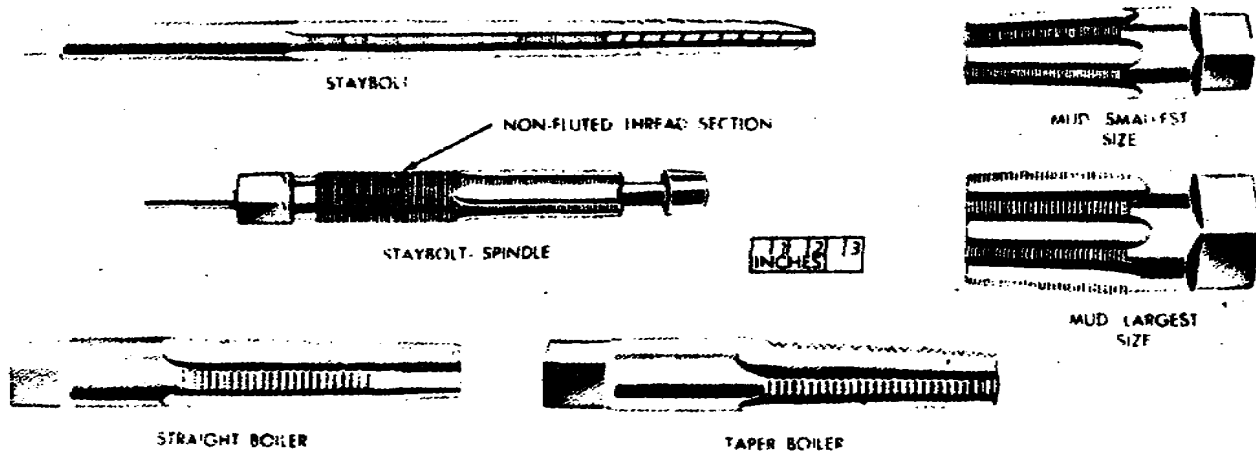
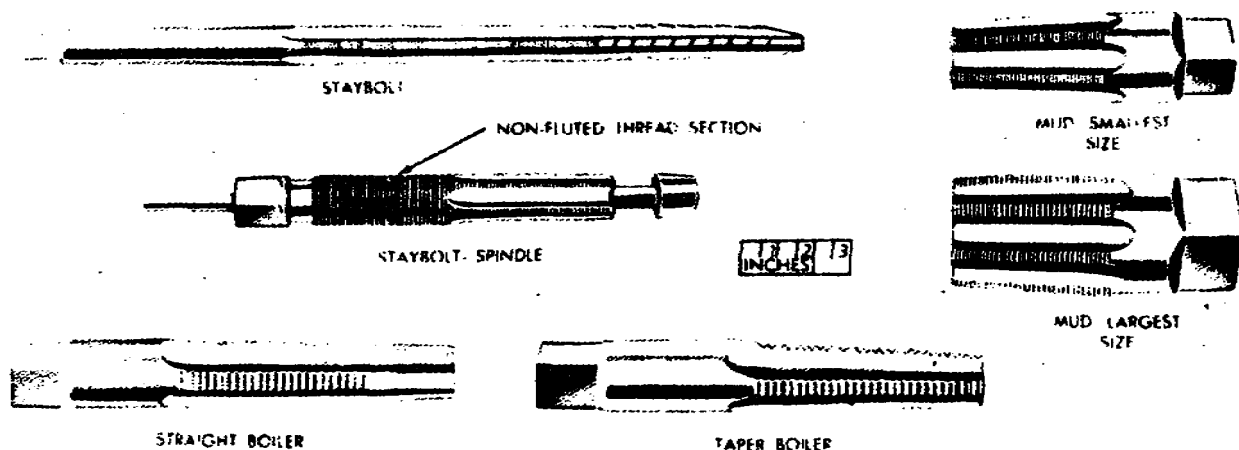

Figure 29. Types of common taps.
Figure 30. Special purpose taps.
b. Types of taps. There are several types of taps issued by the supply system. However, the most common are the taper, plug, bottoming, and pipe taps (fig 29). Special purpose taps (fig 30) such as mud or washout taps, boiler taps, and staybolt taps are also discussed in this paragraph.
(1) Taper hand tap. The taper or starting hand tap (fig 29) has a chamfer length of 8 to 10 threads. These taps are used when starting the tapping operation and tapping coarse threads in through holes especially in harder metals.
(2) Plug hand taps. Plug hand taps (fig 29) are designed for use after the taper tap and in through holes when tapping softer metals or fine-pitch threads. They have a chamfered length of 3 to 5 threads. These taps. are the most popular.
(3) Bottoming hand taps. Bottoming hand taps (fig 29) are used for threading the bottom of a blind hole. They have a very short chamfer length of only 1 to 1-1/2 threads for this purpose. This tap is always used after the plug tap has already been used and for hard materials. Both the taper hand and plug hand taps should precede the use of the bottoming hand tap.
(4) Pipe taps. A taper pipe tap (fig 29) is used for pipe fittings and on other places where extremely tight fits are necessary. The tap diameter, from end to end of threaded portion, increases at the rate of 3/4 inch per foot. All threads on this tap cut as compared to the straight taps where only the nonchamfered portion does the cutting.
(5) Boiler taps. Straight boiler taps (fig 30) range in diameter from 1/2 to 1-1/2 inches, The chamfered portion of the thread simplifies starting. Taper boiler taps have no chamfered portion and the threaded portion is tapered 3/4 inch per foot. The overall and shank diameters are similar to those of straight boiler taps.
(6) Staybolt taps. Staybolt taps (fig 30) are used principally in boiler locomotive and railroad shops for tapping the staybolt holes in the outer and inner plates or shells of boilers.
(7) Mud or washout taps. Mud or washout taps (fig 30) have 6 flutes with a 1-1/4-inch taper per foot and 12 threads per inch. They are used to cut special American National or V-form threads when tapping mud plug drain holes.
(8) Fusible plug tap. The fusible plug tap (not illustrated) is made of carbon steel and has a 1-1/4-inch taper per foot. It has a thread length of 4-3/8 inches, is 1-inch square on the shank, has 4 flutes, and is 7 inches long.
(9) Pipe tap and drill. A pipe tap and drill (not-illustrated) is a combination twist drill and tap. The tap portion follows the twist drill tip. The tool does drilling and tapping in one operation. They are made of carbon steel with a tapered square shank and sized to drill and tap holes 1/4--18, 3/8--18, and 1/2--14.